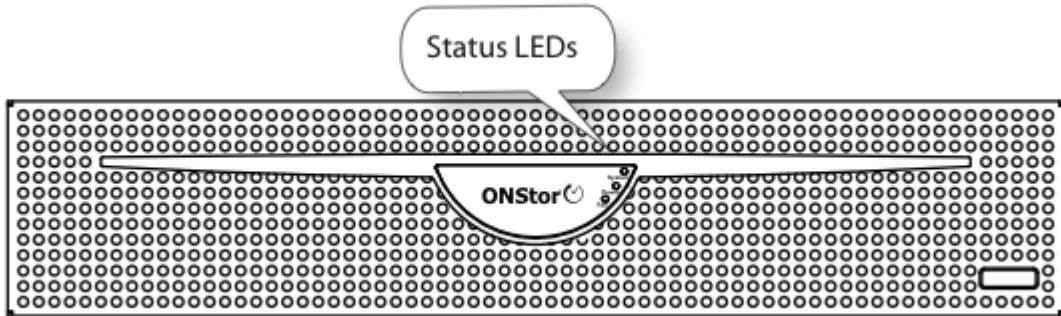

Figure 6-4 Cougar Fascia Status LEDs
Step 1: The system, power supply, and fan LEDs should be glowing steadily green. Figure 6-4 shows the fascia with the status LEDs.